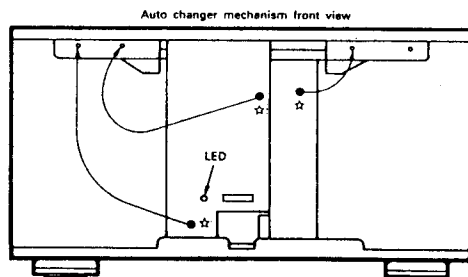

Figure 5
3) To remove the shipping lock screws. (Refer to Figure 5)